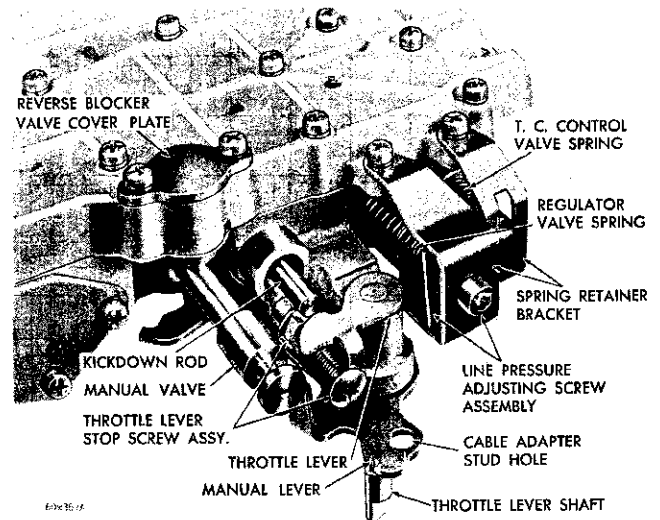

Fig. 56—Regulator and Converter Control Valves (Assembled View)
(2) While holding the spring retainer bracket firmly against the spring force, remove the three bracket retaining screws (Fig. 56).
(3) Remove the spring bracket, torque converter control valve spring, and the regulator valve spring with line pressure adjusting screw assembly.